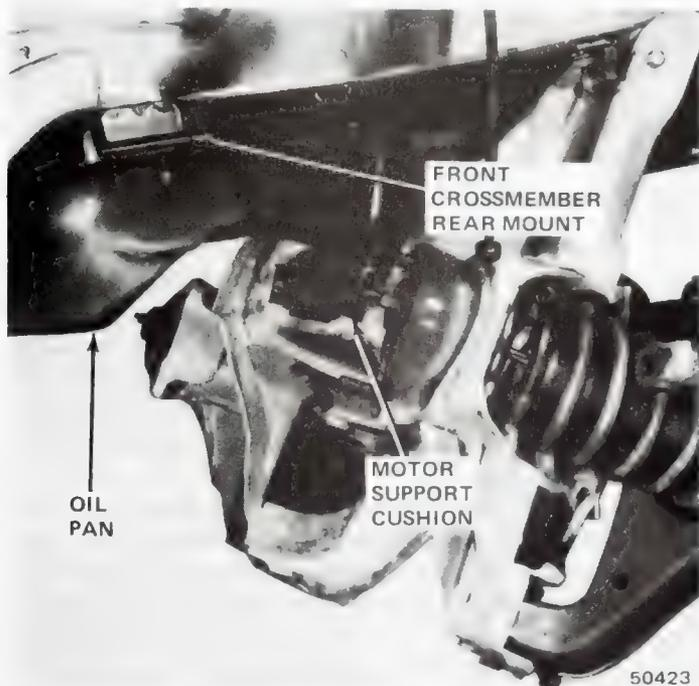

Fig. 1B-99 Oil Pan Removal—Pacer
(1) Drain engine oil.
(2) Install engine holding fixture (fig. 1B-70).
(3) Disconnect steering shaft flexible coupling (rag joint) and use wire to position it aside.
(4) Raise and support car.
(5) Remove front engine support cushion through-screws.
(6) Disconnect front brake lines at wheel cylinders.
(7) Disconnect upper ball joints from spindles.
(8) Remove upper control arms and move aside.
(9) Support front crossmember with jack.
(10) Remove nuts from front crossmember rear mounts and swing crossmember forward (fig. 1B-99).